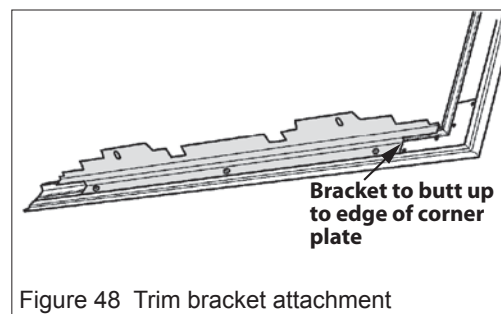

Figure 48 Trim bracket attachment
3. Attach the two trim fixing brackets to the side trims with three screws each side. The brackets must butt up to the edges of the corner connection plates. See figure 48.